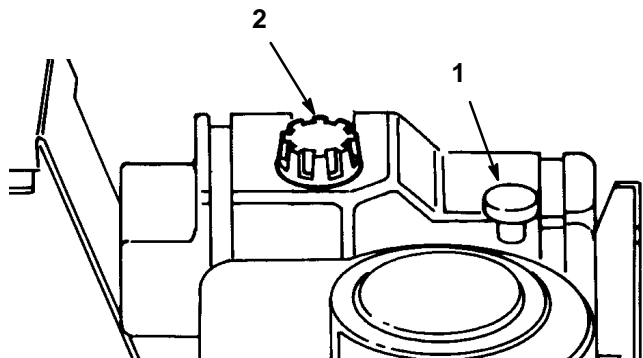

Figure 16
- Clean around the oil dipstick (Fig. 16) so dirt cannot fall into the filler hole and damage the engine.
- Unscrew the oil dipstick and wipe the metal end clean (Fig. 16).